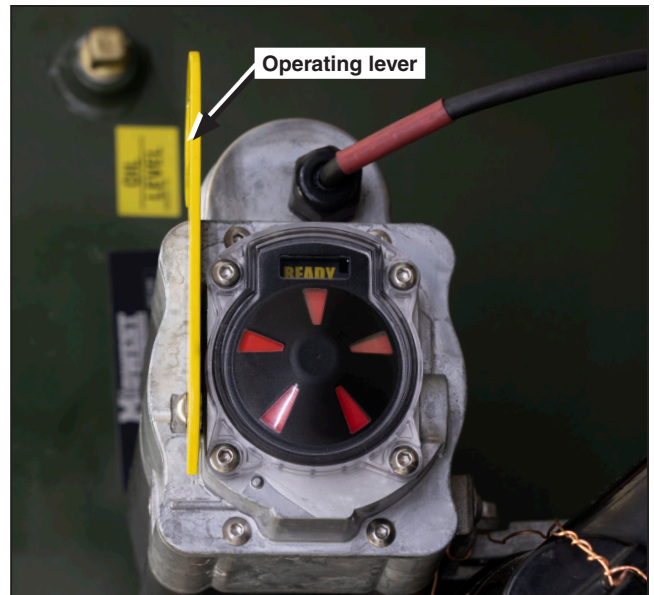

Figure 15. A bushing well interrupter in the Closed and Ready position.
The DELAY LED on the control will immediately begin flashing, and the bushing well interrupter will close in 10 seconds into the **Closed and Ready** position. See Figure 15 on page 15. Toggling the operating lever at any time during the **Closing** sequence will cancel the **Closing** process.
STEP 3. Confirm the bushing well interrupter indicator shows the **Closed and Ready** position. See Figure 15.